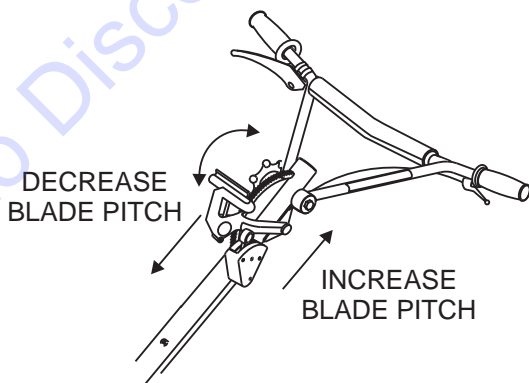

Figure 29. Quick-Pitch™ T-Handle
- To pitch the blades upwards using the "*Quick-Pitch™ T-handle*", (Figure 29) simply squeeze the trigger lock and pull the *T-handle* towards the operator. Pushing the *T-handle* towards the engine will cause the blades to lay flat.